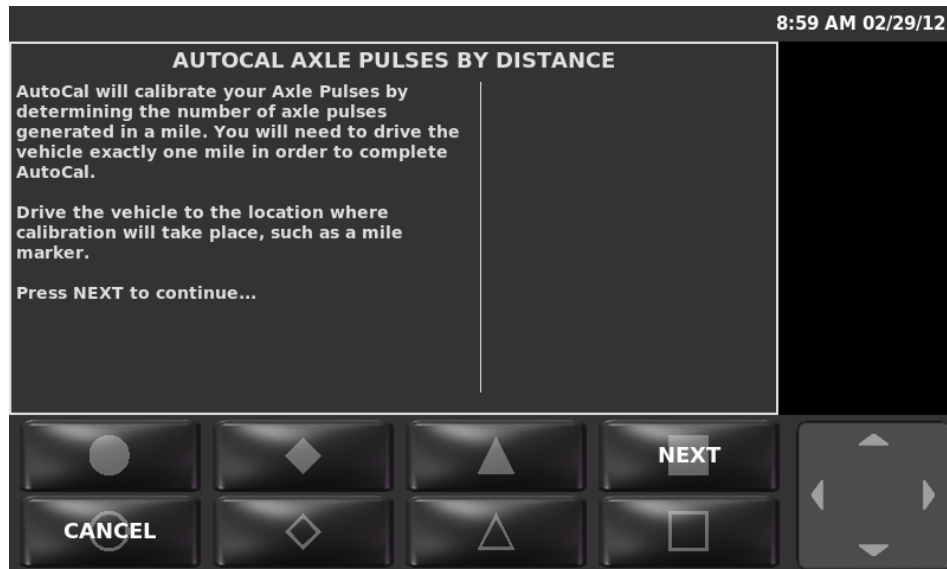

Figure 4: AutoCalibration Axle Pulses By Distance Wizard
- STEP 5: The AutoCal Distance wizard will appear, as shown in Figure 4.